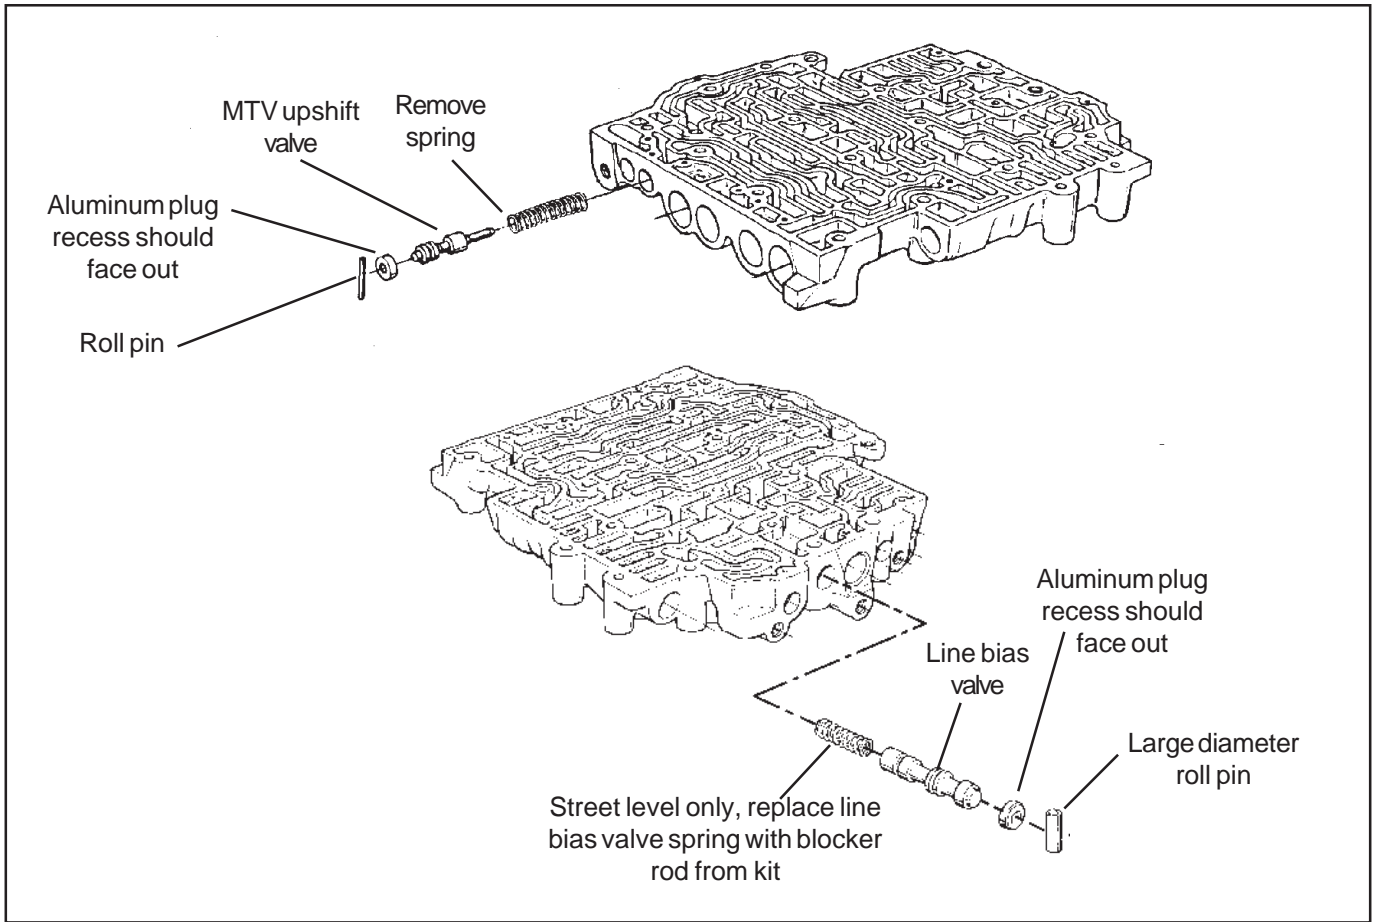

Figure 5
STEP 8. Heavy Duty and Street; MTV upshift valve (See Fig. 5.)
Compress and remove the large roll pin retaining the line bias valve (**See Fig. 5.**) Take care to not distort the roll pin more than is required to remove it. Remove the aluminum plug, valve and spring from bore. The spring will not be re used. Insert the blocker rod from the kit into the bore. Install the valve and aluminum plug as removed. If the aluminum plug extends into the roll pin hole, remove the blocker rod and grind or file a small amount from either end of the blocker rod until the aluminum plug clears the roll pin hole when all parts are installed.